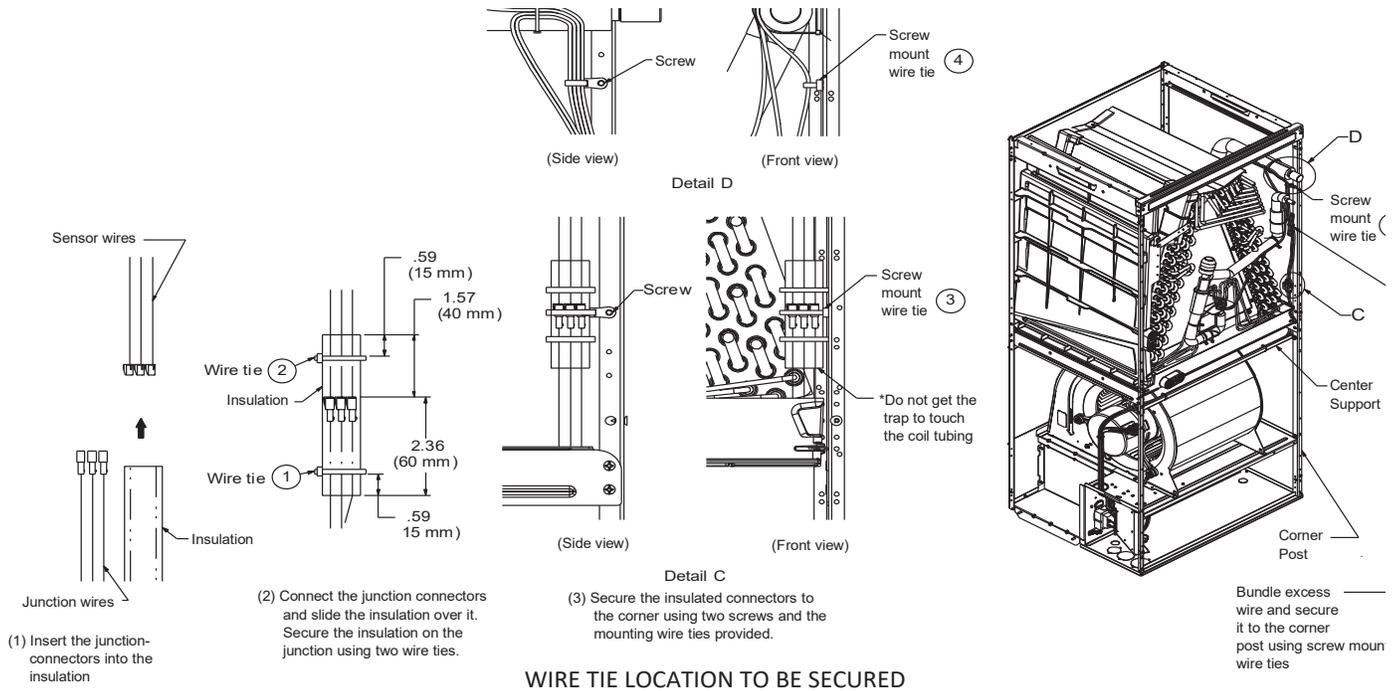

FIGURE 2-2
6. Reconnect the sensor wires and replace the insulation securing it with wire ties on both sides as shown in Figure 2-2. Then, secure the wire harness to the corner post using the screw mount wire ties provided.